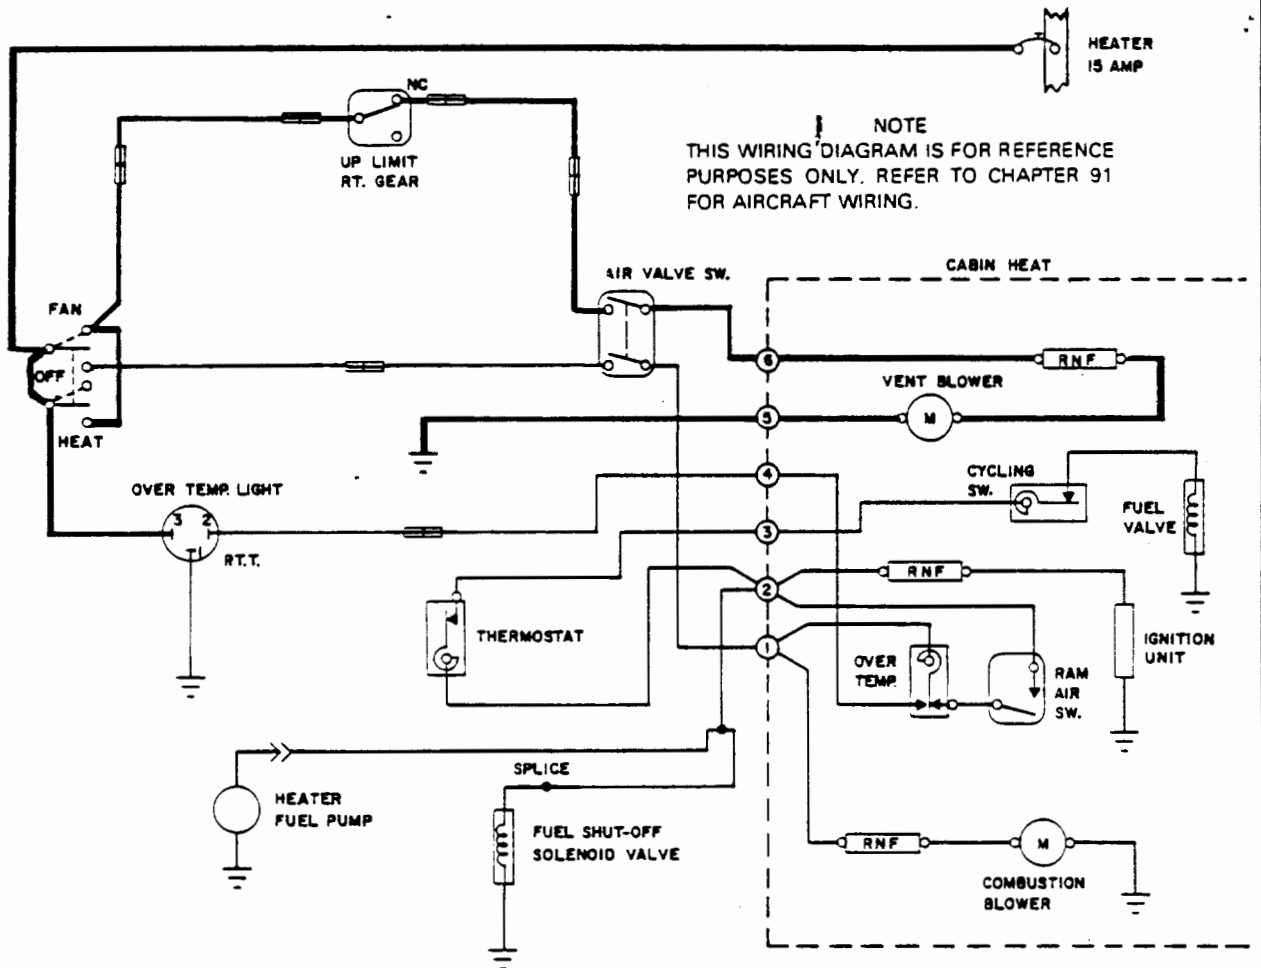

Figure 21-8. Primary Power Circuit
1. With the HEATER SWITCH in the FAN position, voltage (14-volts nominal) should be present at the following locations: (Refer to Figure 21-8.)